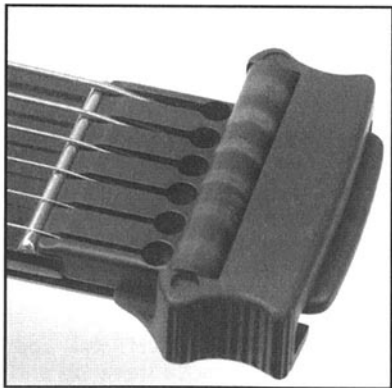

Figure 11
2. In the "resting" position, the capo is positioned in the groove on the headpiece. (Figure 11) In this position, the capo is not in use.